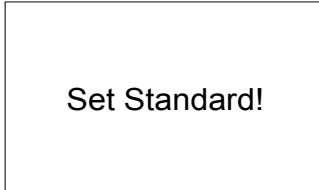

Figure 3.1 - Set Up Grid Standard
- (d) When the inverter completes “*sys checking*”, the LCD shows the screen as Figure 3.1 below. Press ENTER to the standard selection interface, as shown in Figure 3.2.